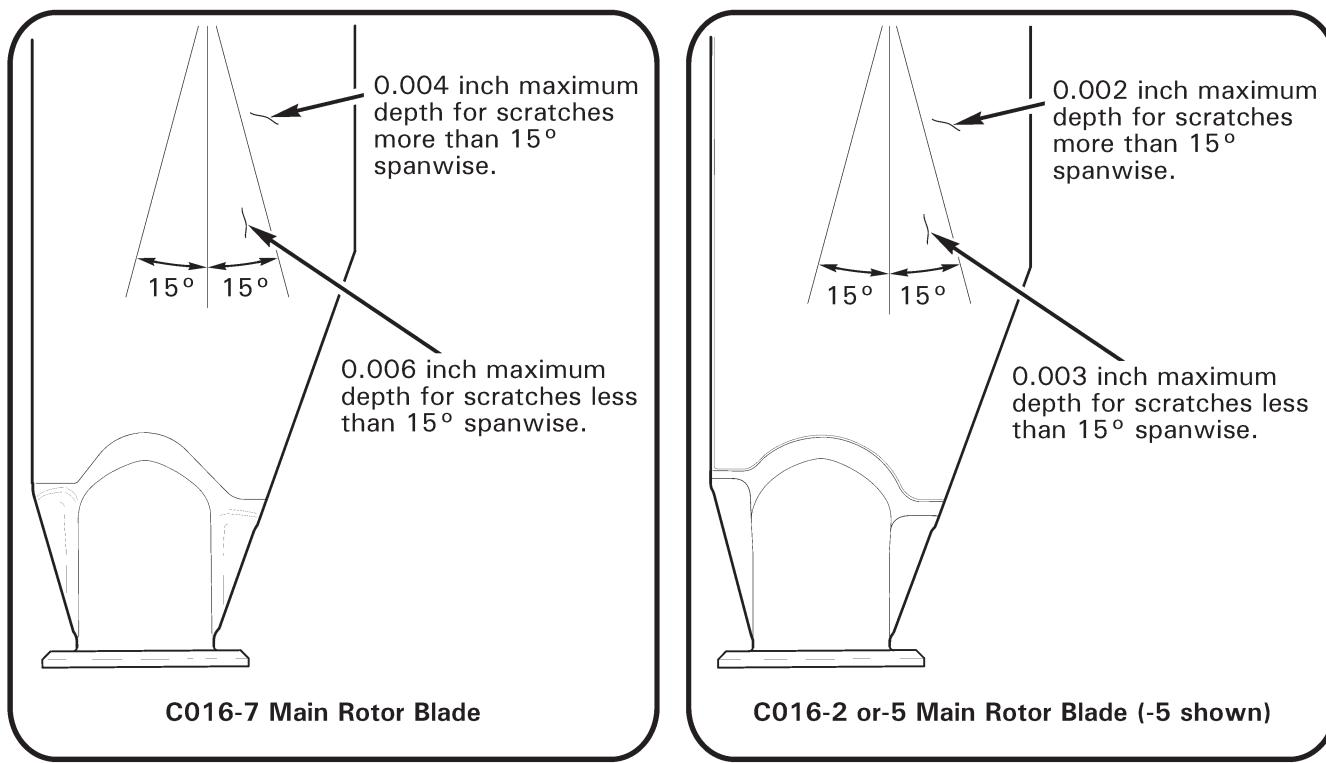

FIGURE 9-11 SCRATCH LIMITS
1. Refer to Figure 9-11. Damage may not exceed the following limits after rework: